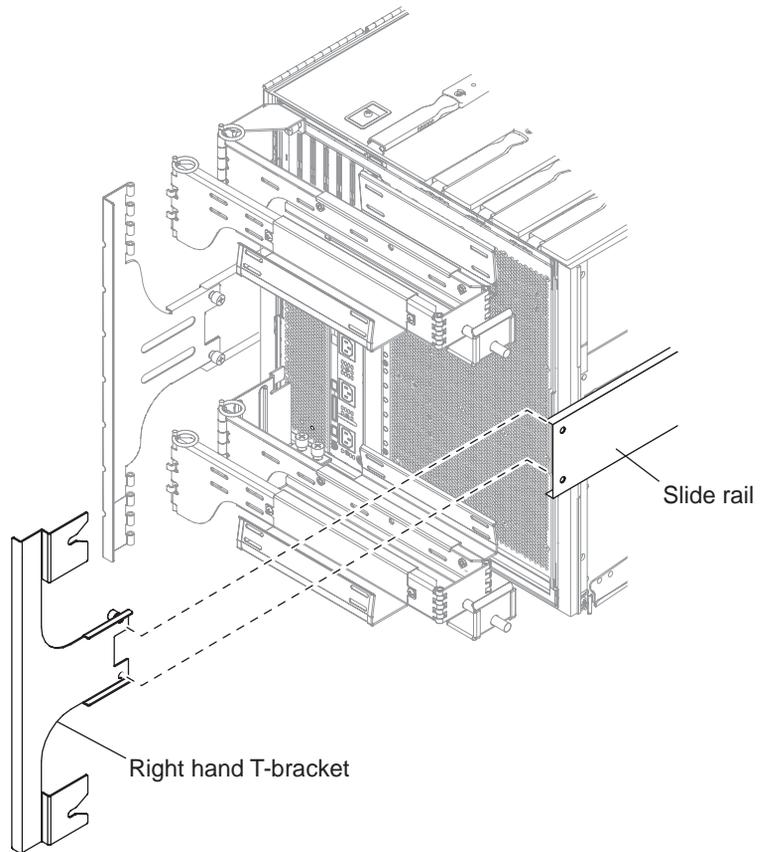

FIGURE 1-24 Attaching the Right-Hand T-Bracket
7. Secure the right-hand T-bracket to the right-hand slide rail using two captive screws (FIGURE 1-24).